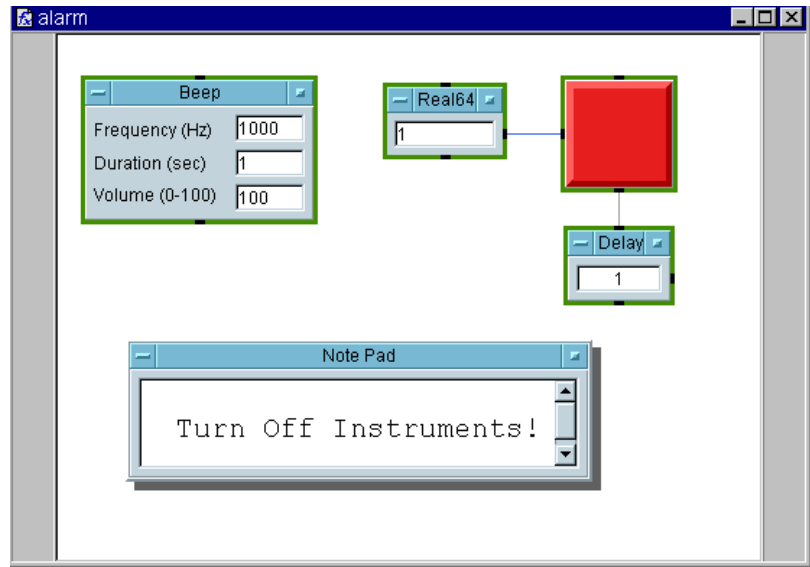

Figure 8-23. The UserFunction alarm (Detail View)
7. Go to the Main window. Click `Device ⇒ Call`, choose `Select Function` from the `Call` object menu, and select `alarm`. Run the program to test it. The detail view of the `UserFunction` alarm should look like Figure 8-23.